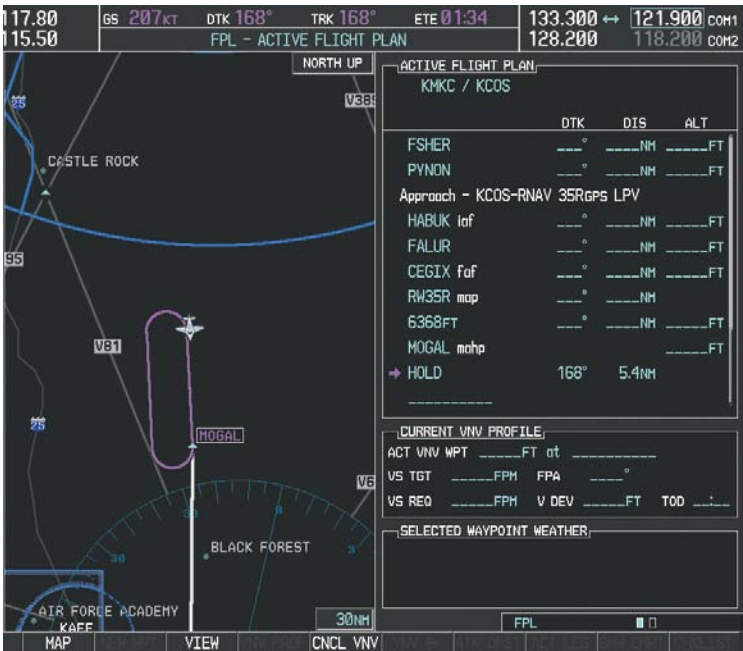

Figure 5-145 Hold Established
27) The aircraft maintains 10,000 feet while following the magenta line through the hold as in Figure 5-145.